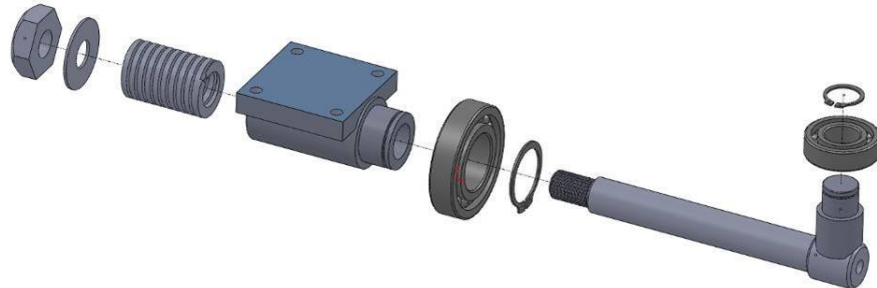

Figure 6.10
6.2.2 Post guiding system installation: install according to the figure shows. See figure 6.10